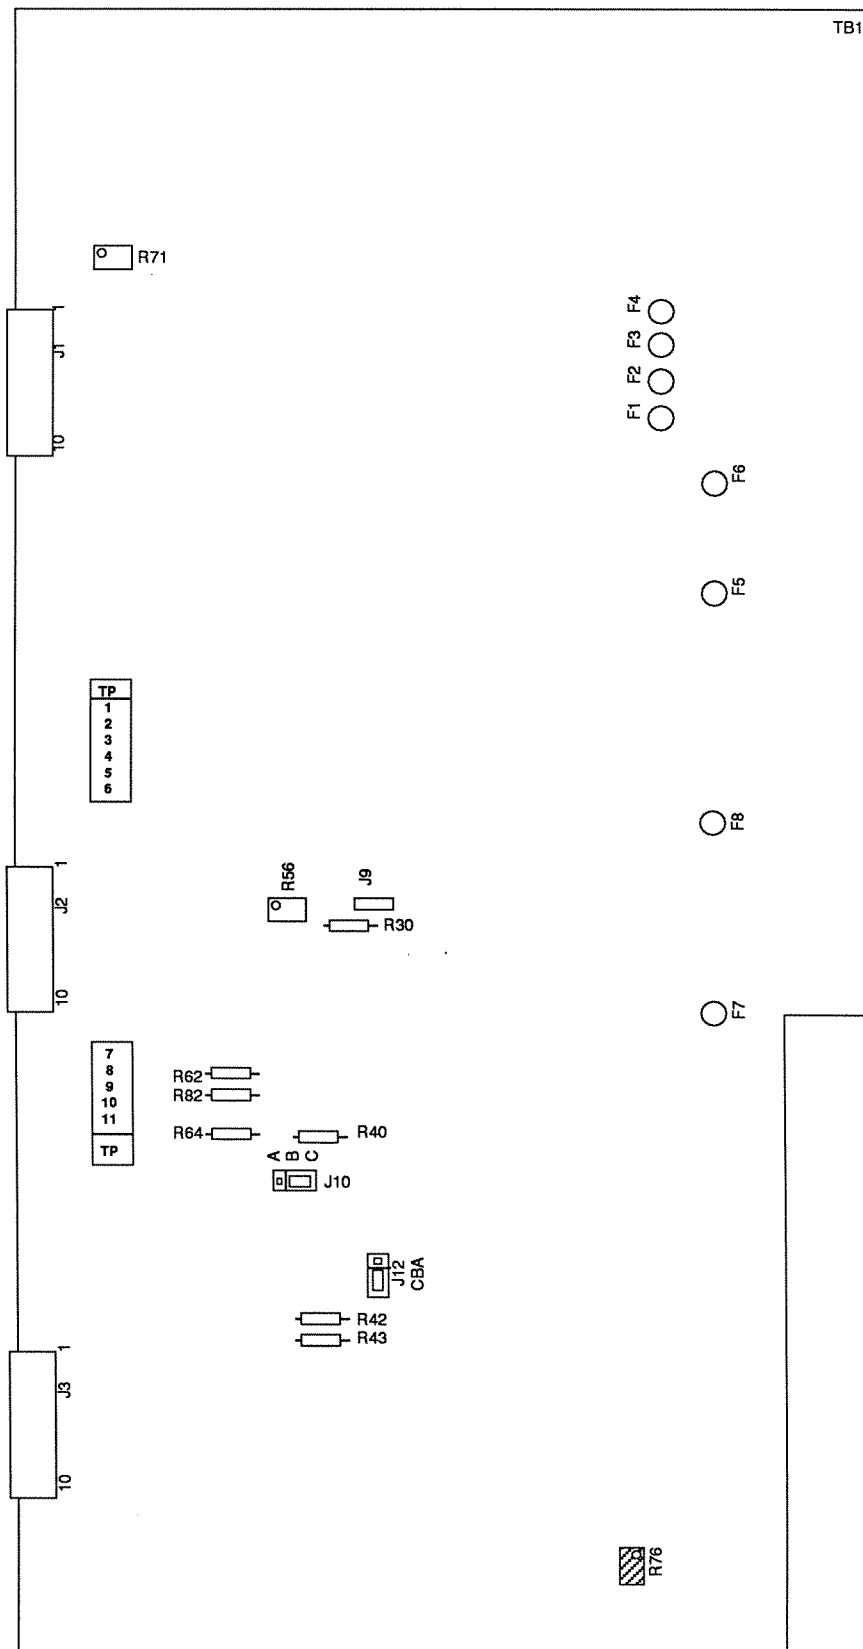

FIGURE 5 Component Location for Calibration and Range Resistors (Phase and Time Board)
2. Referring to the tables below and to the **SELECTED RESISTORS** section of the **PARTS LIST**, choose the correct resistor value, jumper wire or shunt. Use 20 gauge insulated wire for all jumpers. Refer to Figure 5 for the location of these parts.